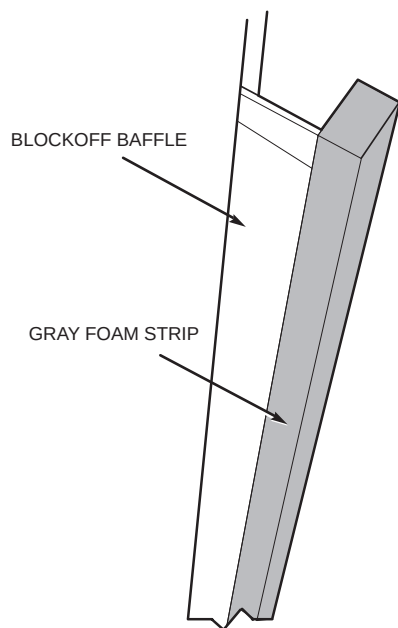

Fig. 22 — Adding Foam Strip to Block-Off Baffle
8. Attach gray foam strip (provided) to block-off baffle on outer face of flange. See Fig. 22.